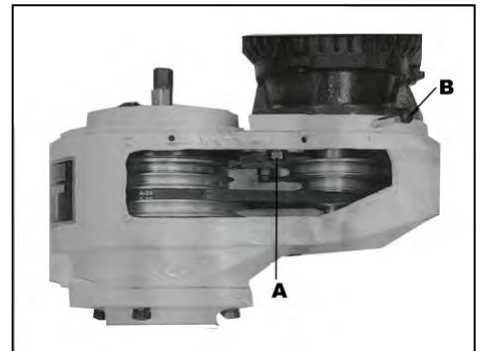

Fig.7
2. Loosen hex nut (A, Fig. 7).
3. Take the tension off the belt by moving handle (B, Fig. 7).